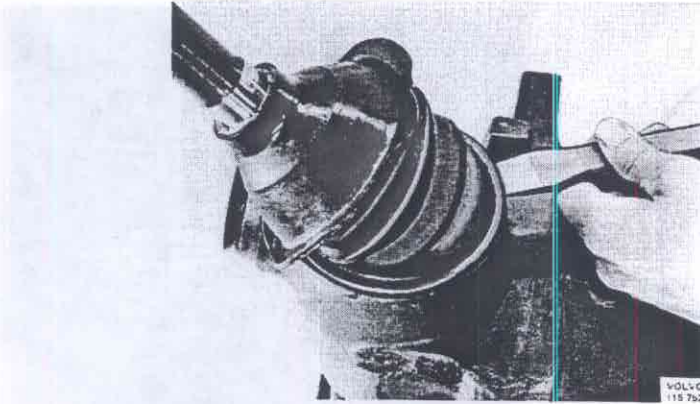

Fig. 46-95. Removing rubber dust cover
4. Tap loose the rubber dust cover, Fig. 46-95, with a suitable tool.